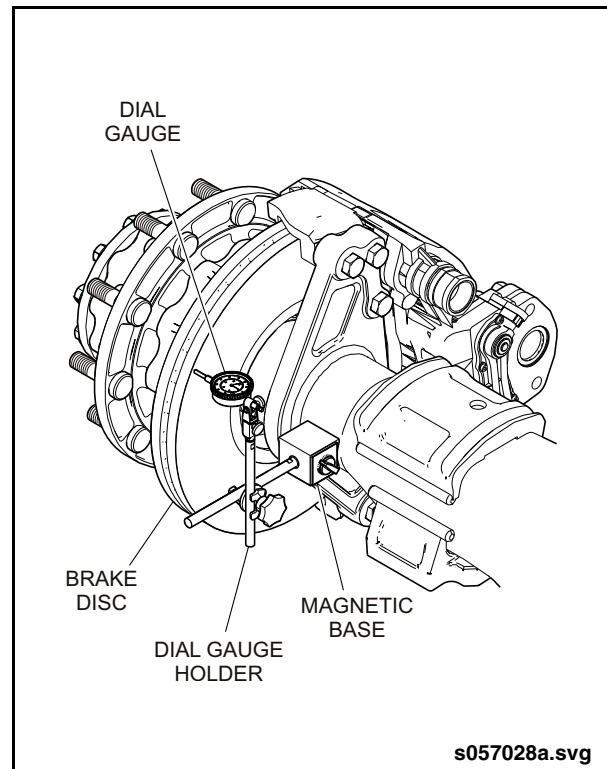

Fig. 3: Wheel Bearing Inspection
1. Attach the base of a magnetic dial gauge to any rigid part of the vehicle structure or axle housing. See "Fig. 3: Wheel Bearing Inspection" on page 4.